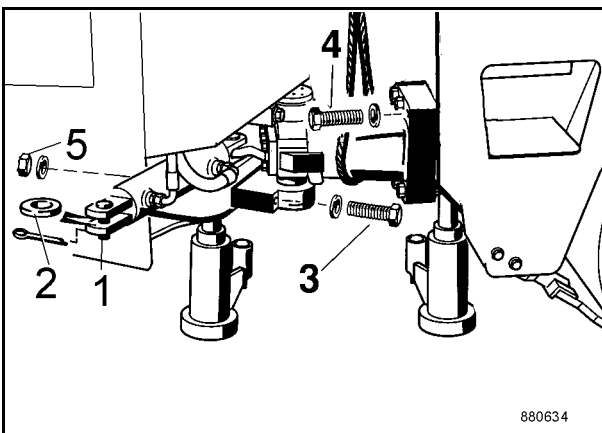

Fig. 2
3. Remove the split pin from the steering cylinder bearing bolt 1 (Fig. 2) and knock out the bolt.
4. Take off supporting discs (2).
6. Unscrew fastening screws (3), washers and nuts (5) from the front bearing blocks.
7. Unscrew the fastening screws (4) from the bearing housing and remove the articulated joint with the steering cylinder.